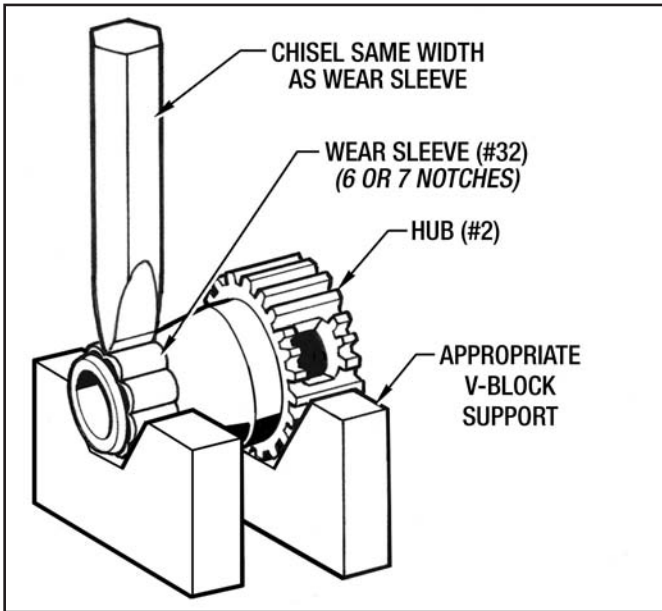

Figure 6.2 - Removing Wear Sleeve (#32)
14. Remove the Wear Sleeve (#32) from the Hub (#2) with the following procedure shown in Figure 6.2: